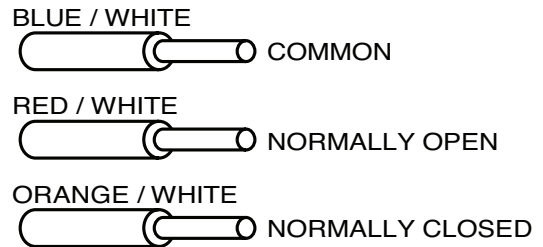

Figure 5. form C contact relay wire color codes
8. BSPD *Standard* and *Standard with Surge Counter* configurations have a Form C contact relay for remote monitoring. The Form C contacts are rated at 150Vac/125Vdc at 1A max. Make the remote monitoring connections per the Form C contact relay wire color codes in Figure 5. Follow all national, state and local electrical codes and agency standards when making these connections.